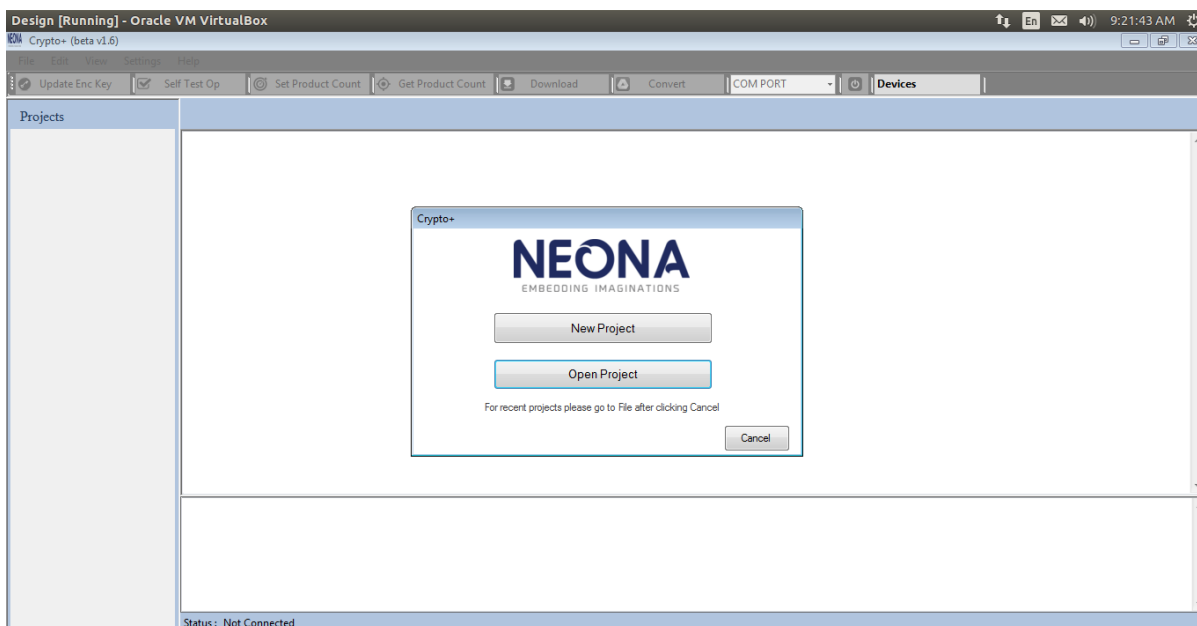

Figure 2.19
STEP 1: Start the application and click the **Open Project** button as shown in figure 2.19. If the application is already opened, then a project can be opened using **File->Open** option.